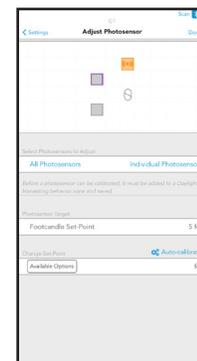

Figure 45: Photocell Calibration
2. From **Device Settings**, select **Photosensor Calibration** (Figure 45).